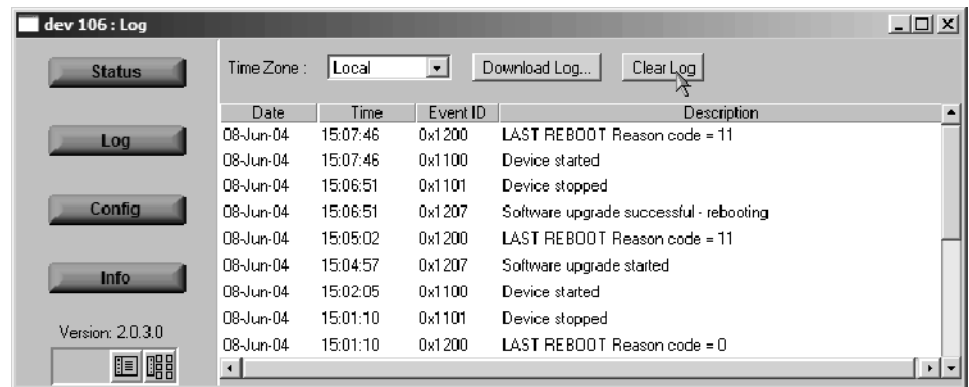

Figure 11: Clearing the Device Log
1. In the Device view, select Log to display the Device Log screen. Select Clear Log to clear the device log (see Figure 11).